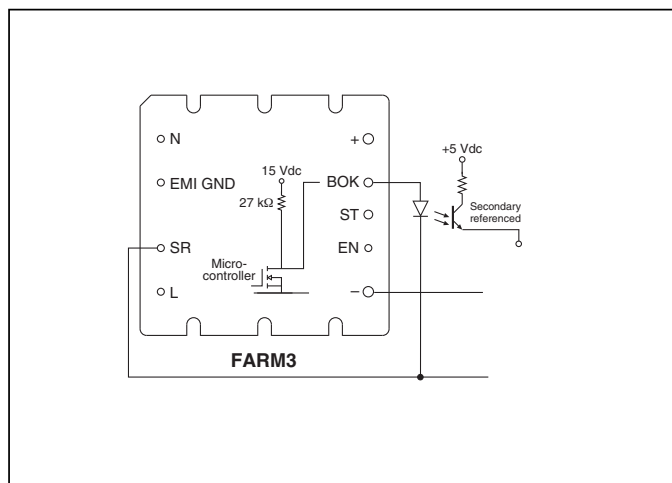

Figure 12 — Bus OK (BOK) isolated power status indicator
**Bus-OK (BOK) Pin.** (see Figure 12) The Bus-OK pin is intended to provide early-warning power fail information and is also referenced to the SR pin.